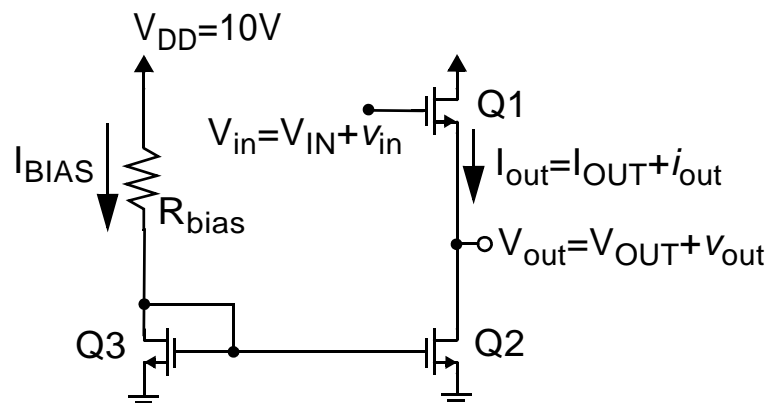

Figure 2: Source follower (SF).
Design an n-channel source follower (SF) as shown in Figure 2 (Fig. 3.6 of the textbook).